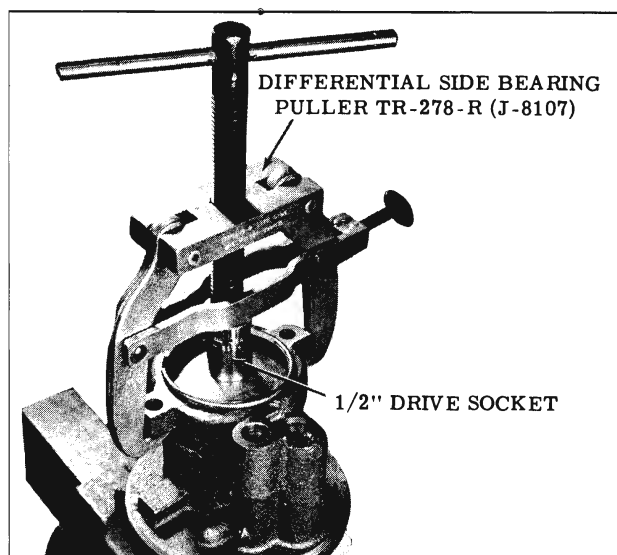

Fig. 4-32 Installing End Cover
- b. Install Differential Side Bearing Puller (J-8107), along with a 1/2" drive socket to press the end cover down beyond the retaining ring groove. (Fig. 4-32)